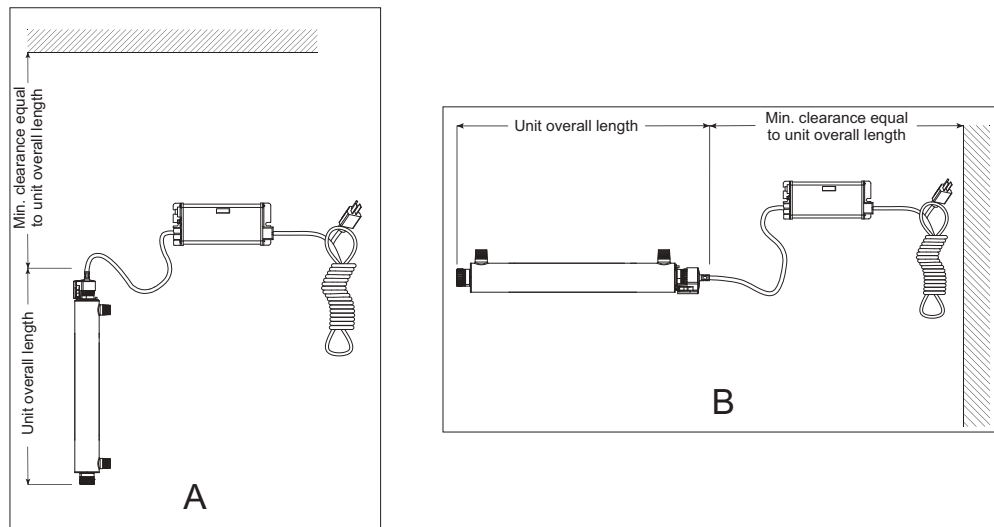

Figure 4 Installation - Vertical and Horizontal
2. Select a suitable location for the UV system and its related components. As it is recommended to install a GFCI, make sure that this is taken into consideration prior to any installation. The system can either be installed vertically (inlet port at the bottom) as shown in **Figure 4 A**, or horizontally as shown in **Figure 4 B**. However, the vertical installation is the most preferred method. When selecting a mounting location, leave enough space to allow the removal of the UV lamp and/or quartz sleeve (typically leave a space equal to the size of the UV chamber itself).